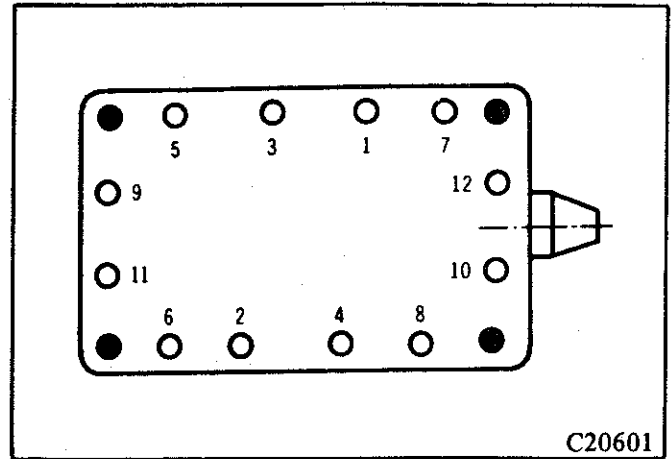

Fig. 67—Tightening sequence
(8) Install the crankcase bottom cover with a new gasket and tighten bolts to specified torque in the correct sequence — refer Fig. 67.